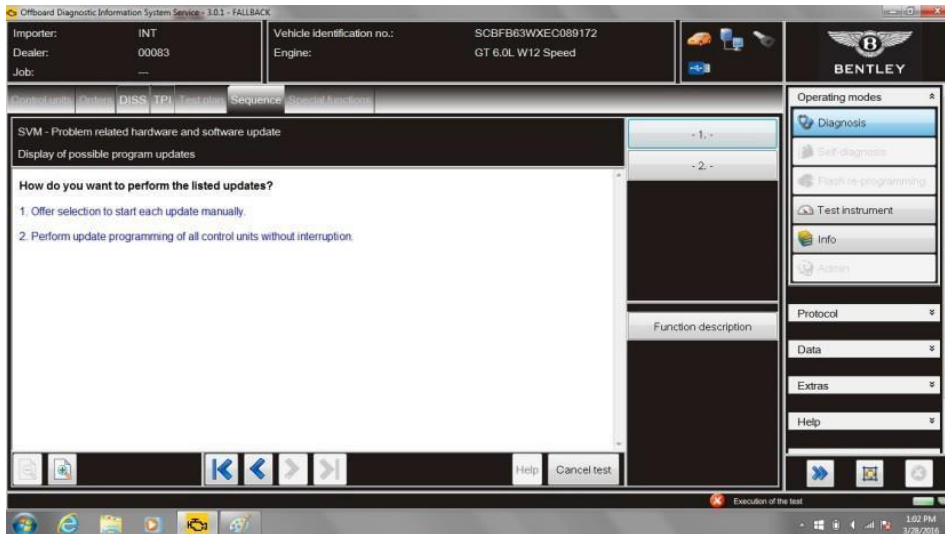

Figure 5
15. Select option 2 to perform listed updates (see Figure 5)